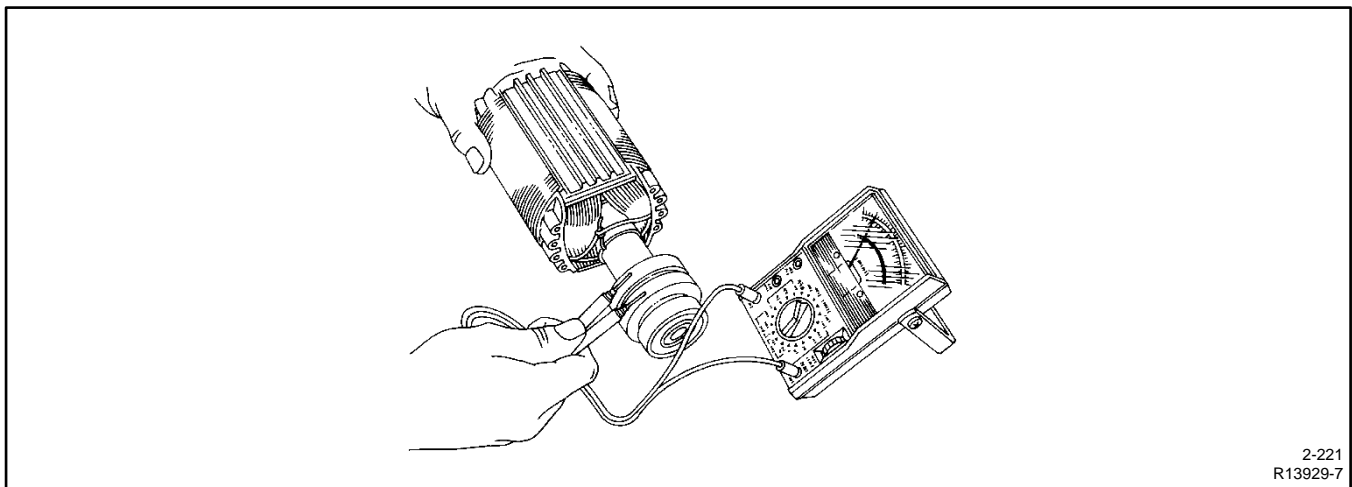

Figure 70 Rotor Resistance Check
- b. Measure the rotor resistance (ohms) between the two slip rings; see Figure 70. If necessary, clean the slip rings to allow good contact with the meter leads. See the Slip Rings section for cleaning instructions. See the Alternator Specifications section for rotor resistance readings.